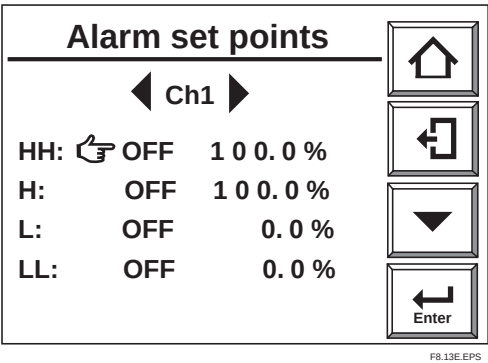

Fig. 8.13 Alarm setting
- 5) From the Alarm Setup display select Alarm Set Points and the display shown in Fig. 8.13 appears.